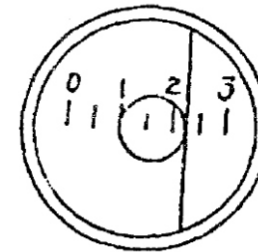

Fig.3 Example of measuring
When measuring, put the instrument on the indentation impressed for measuring and make one of the scores (2) on the upper division plate contact one side of the impressed indentation, then turn the graduation thimble to move the lower division plate and make the long score contact the other side of the indentation (between 4 and 5), see Fig.3.